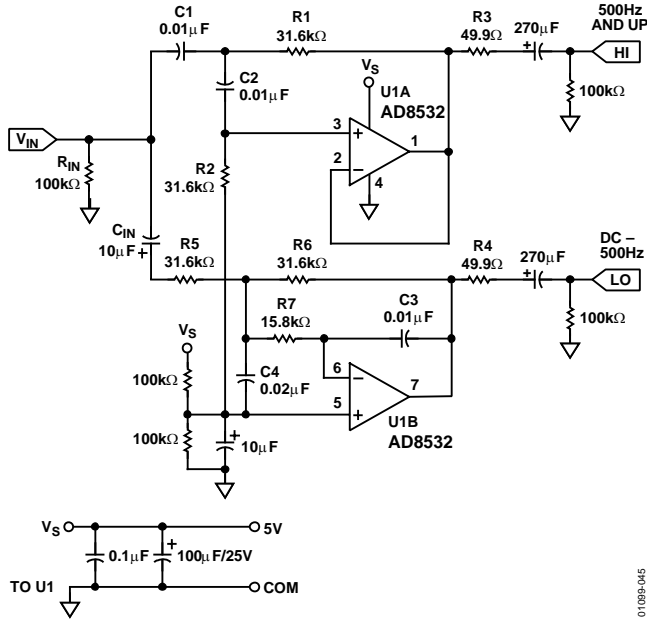

Figure 45. A Single-Supply, Two-Way Active Crossover
Active filters are useful in loudspeaker crossover networks for reasons of small size, relative freedom from parasitic effects, the ease of controlling low/high channel drive, and the controlled driver damping provided by a dedicated amplifier. Both Sallen-Key (SK) and multiple-feedback (MFB) filter architectures are useful in implementing active crossover networks. The circuit shown in Figure 45 is a single-supply, two-way active crossover that combines the advantages of both filter topologies. This active crossover exhibits less than 0.4% THD+N at output levels of 1.4V rms using general purpose unity-gain HP/LP stages.